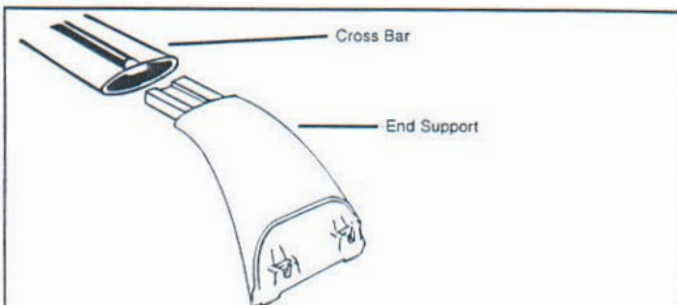

Fig. 1
- 1 Pre-assemble End Supports into Cross Bars. They are designed to be a tight fit: use a rubber mallet if necessary (Fig. 1).